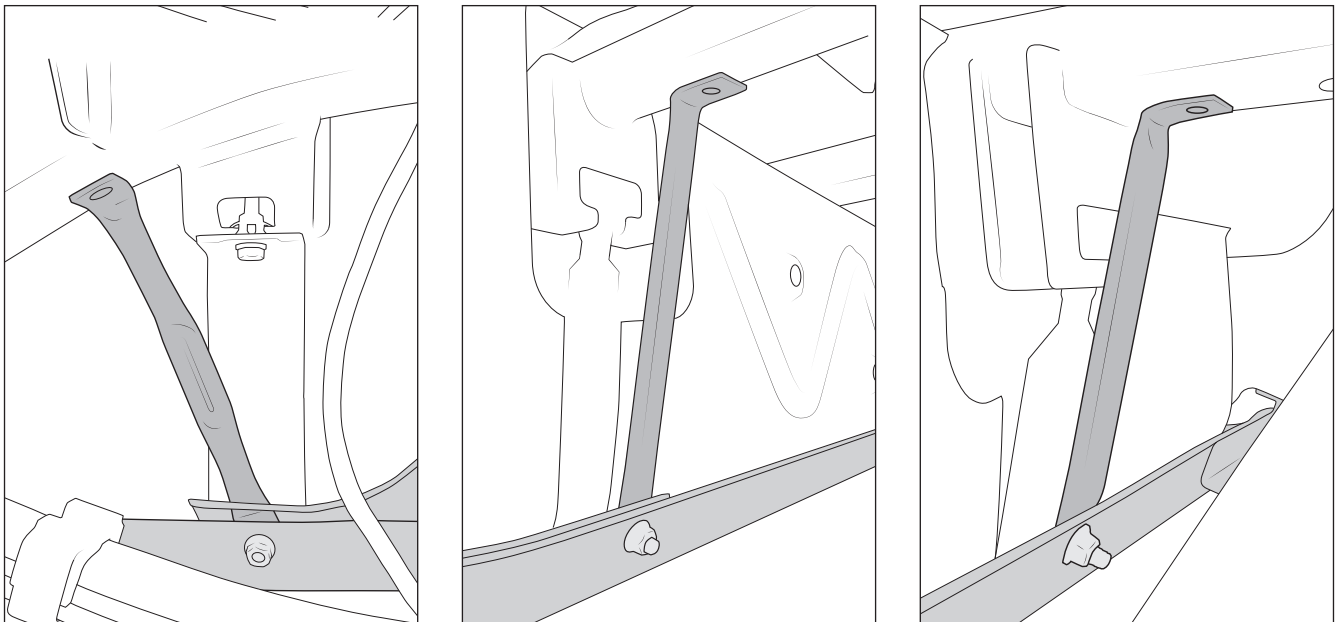

Figure 4: Outboard/Rear (left) Inboard/Rear (center) Inboard/Front (right)
4. Loosely install all three pencil braces onto the Fuel Skid using QTY 3 M10 Nuts. The angled pencil brace should be installed on the outboard/frame side of the fuel skid (fig. 4).